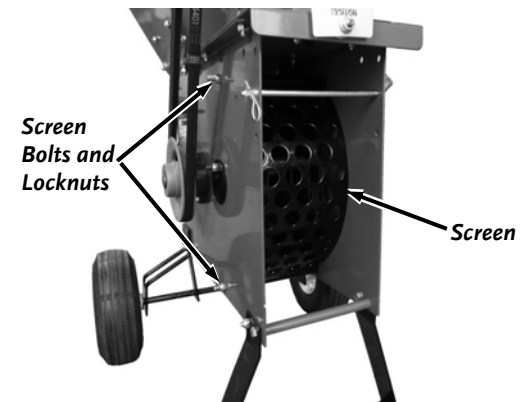

Figure 10
4. Using Two 1/2" Wrenches, Remove the locknuts on the Screen Bolts and then remove the Screen (**Figure 10**). Remove any debris from the Screen.